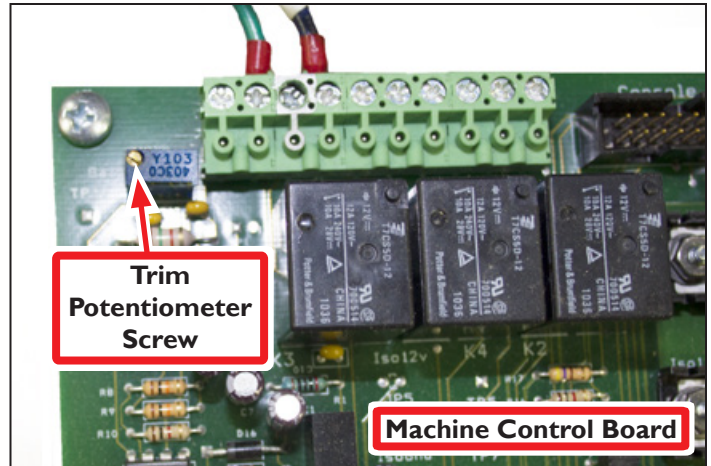

Figure 13
- Using a small flat-bladed screwdriver, turn the Trim Potentiometer Screw on the machine control board (see **Figure 13**) to adjust spindle speed.